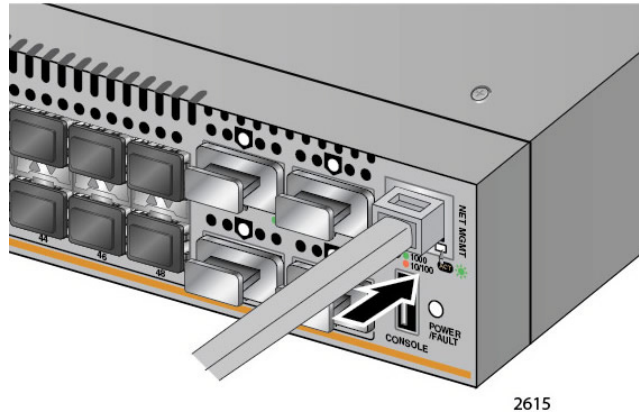

Figure 44. Connecting the Twisted Pair Cable into the NET MGMT port
2. Place the locking tab on the bottom and insert the twisted-pair cable into the NET MGMT port. See Figure 44 on page 87. The connector should click into place when it is fully seated.